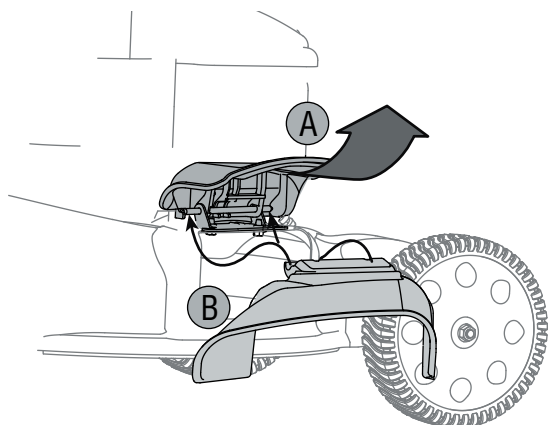

Figure 8 - Optional Feature
- a. On the side of the mower deck, lift the hinged mulching plug. See Figure 8.